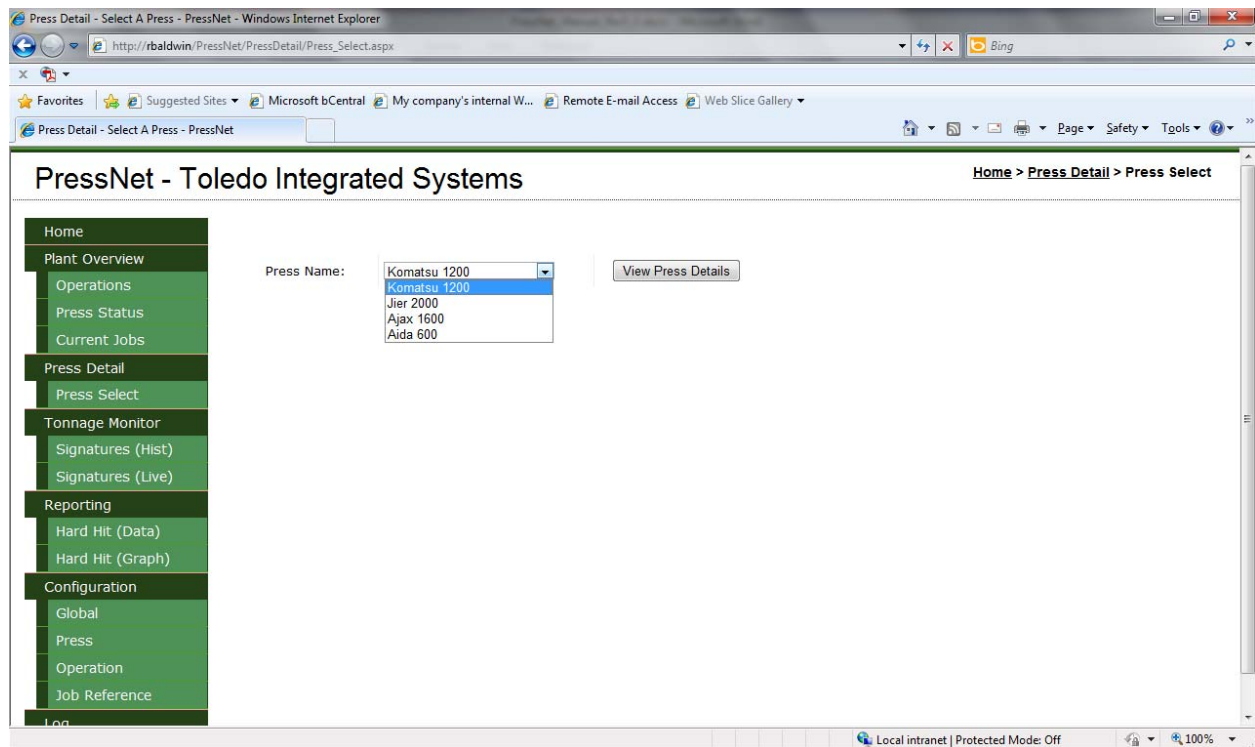

Figure 8-1 – Press Select Screen
2. From the press select screen (shown above in figure 8-1), select the desired press from the drop down menu and select “View Press Details”. The user will be redirected to the press details page, displaying the monitor information.